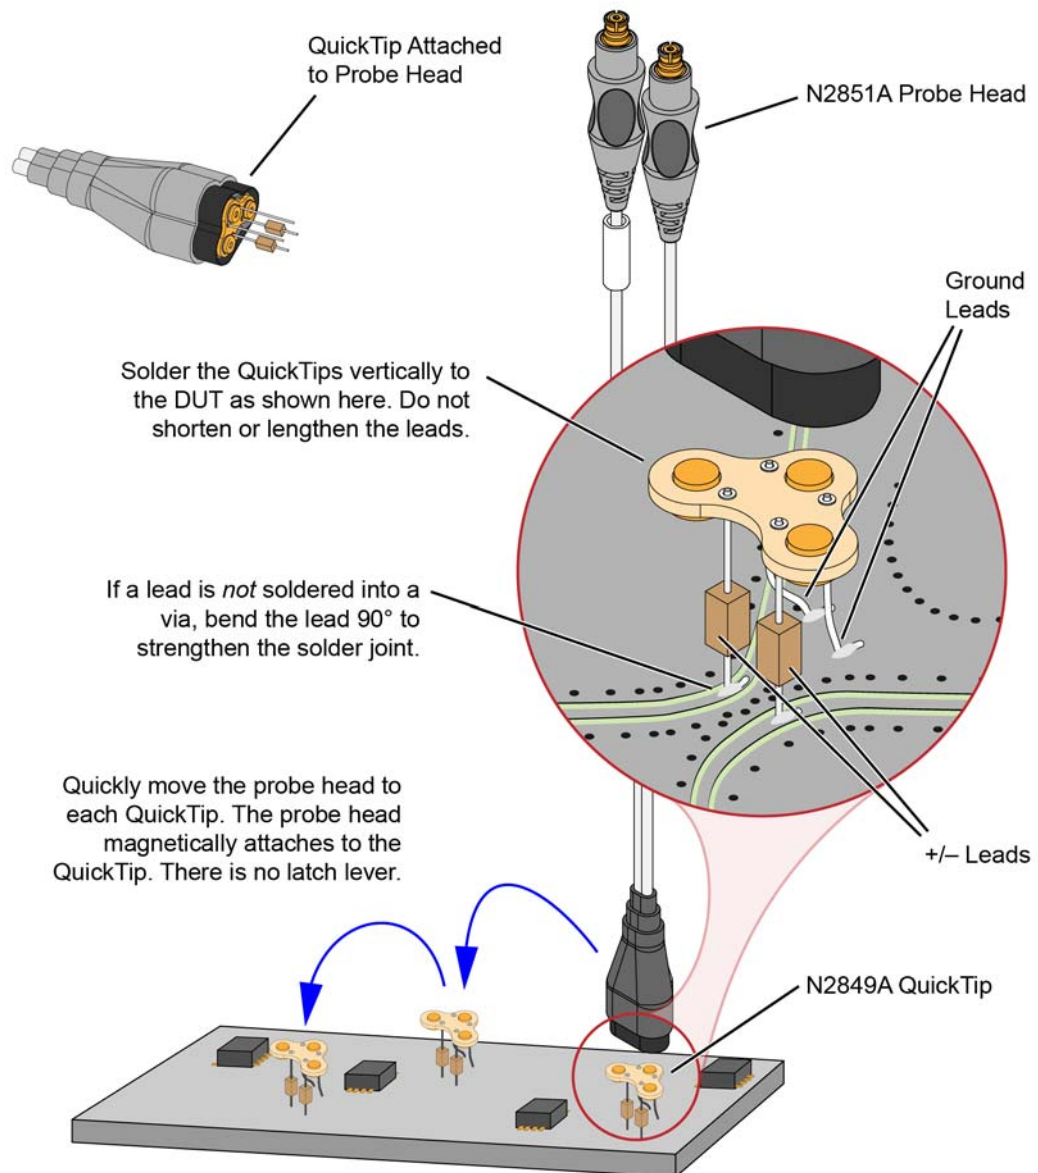

Figure 28 Probing with the N2851A Probe Head and N2849A QuickTip
Permanently solder any number of QuickTips to your DUT as shown in Figure 28 on page 50. Because the probe head is magnetically connected (instead of mechanically connected) to the QuickTip, you can effortlessly connect and disconnect to each QuickTip. For best performance, position the QuickTip vertically on the DUT. The N2849A QuickTip has two signal leads and two ground leads. The ground leads have minimal effect on your differential measurements. However, if you are making only differential measurements you can optionally cut off the ground leads or fold them out of the way. Be aware that without the ground leads, the mechanical stability of the QuickTip will be reduced and you will need to stabilize the probe head.
- Orient the QuickTip vertically as shown in **Figure 28** on page 50.